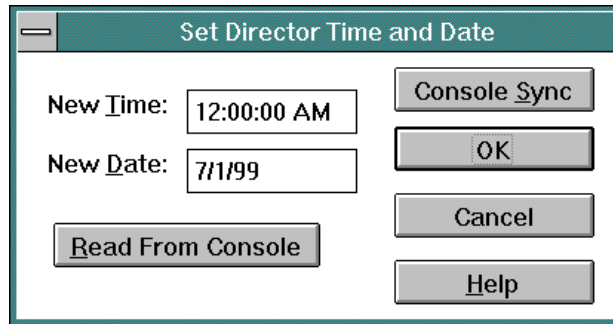

Figure 196. Set Director Time and Date Dialog Box
3. Select the *Time/Date* option from the *Utility* menu. The *Set Director Time and Date* dialog box appears (Figure 196).